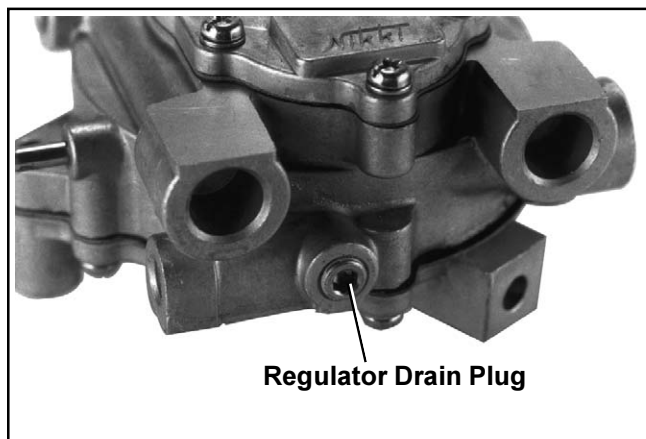

Figure 5A-23. Regulator Drain Plug (some models)
3. Remove the 1/8" pipe plug from bottom of regulator and drain any accumulated deposits. See Figure 5A-23.